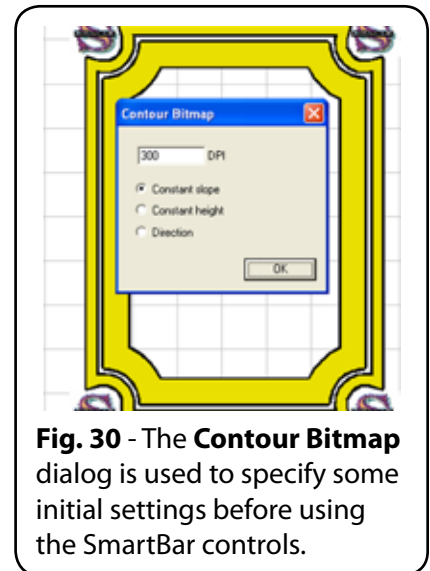

Fig. 30 - The **Contour Bitmap** dialog is used to specify some initial settings before using the SmartBar controls.
32. The **Contour Bitmap** dialog will open (Fig. 30). Use the following settings: